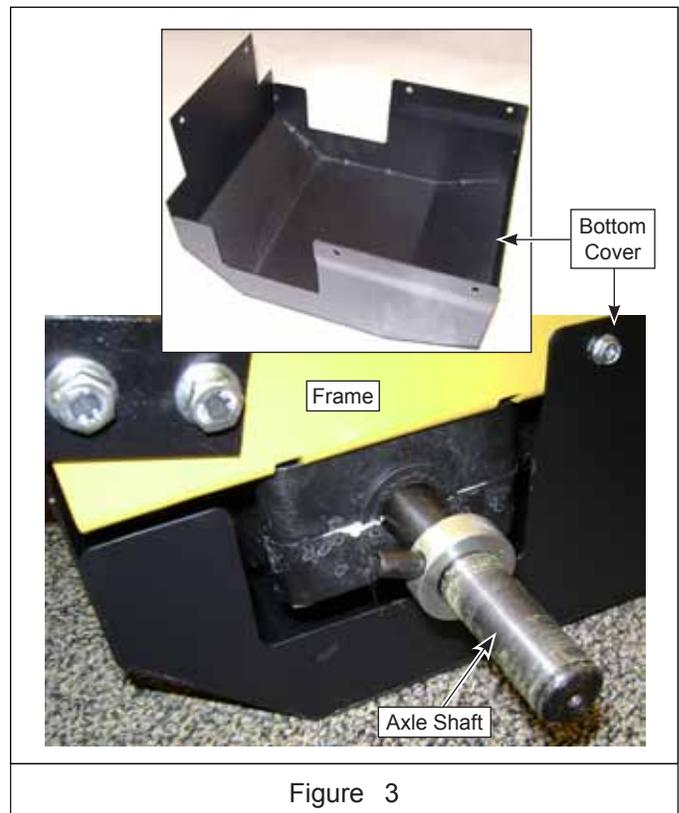

Figure 3
3. Remove (6) 8mm self-tapping screws and remove cover from bottom of frame. See Figure 3.